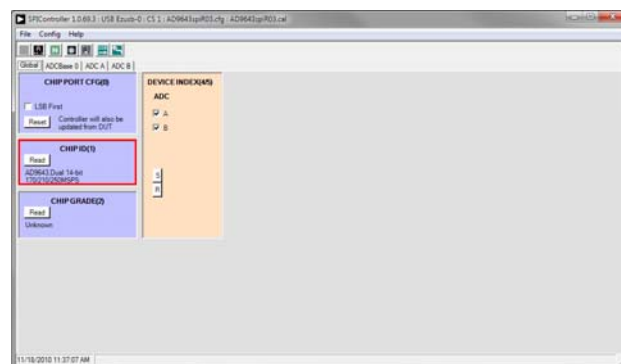

Figure 8. SPI Controller, CHIP ID(1) Section
1. Open the SPI controller software by going to the **Start** menu or by double-clicking the **SPIController** software desktop icon. If prompted for a configuration file, select the appropriate one. If not, check the title bar of the window to determine which configuration is loaded. If necessary, choose **Cfg Open** from the **File** menu and select the appropriate file based on your device type. Note that the **CHIP ID(1)** field should be filled to indicate whether the correct SPI controller configuration file is loaded (see Figure 8).